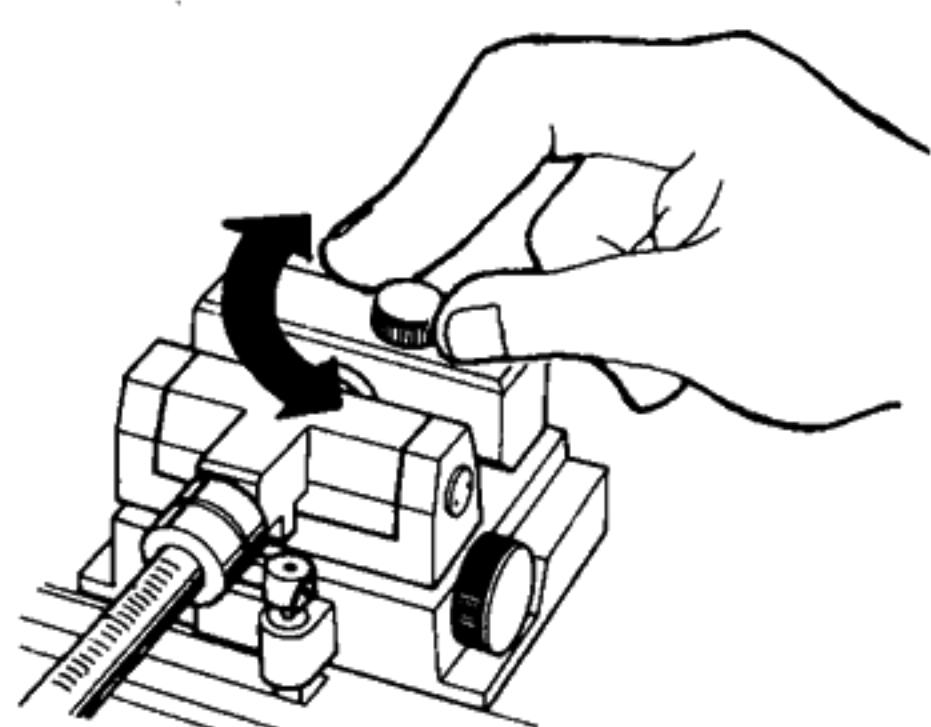

Fig. 4
- While lightly supporting the front of the head shell rotate the adjustment knob for the main weight until zero balance is achieved. See Fig. 4 below.